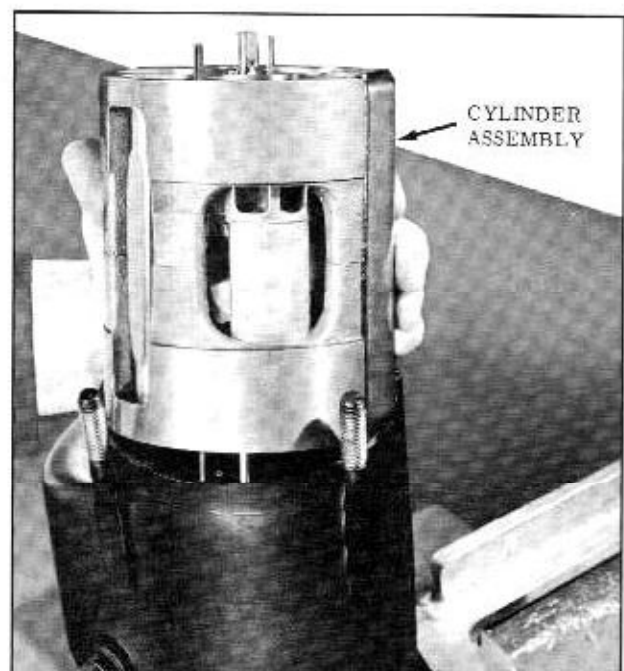

Fig. 14-43 Removing Cylinder from Housing
1. Remove the cylinder assembly from the rear of the compressor housing by pushing on the compressor shaft. (Fig. 14-43)